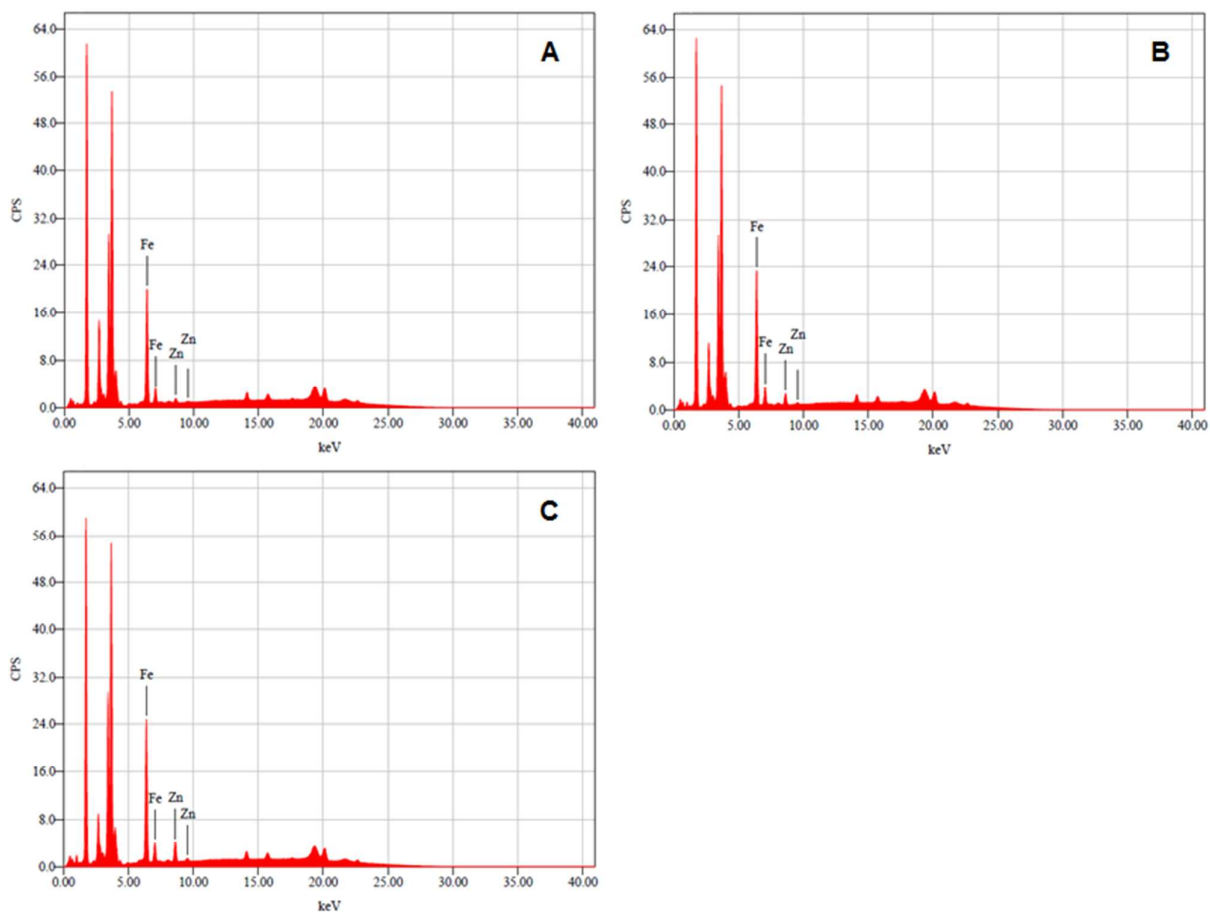

Figure S1: XRF results of $\text{ZnFe}_2\text{O}_4/\alpha\text{-Fe}_2\text{O}_3$ composites, ZF3 (A), ZF2 (B), ZF1 (C)
The surface composition of the prepared composites were analysed by XRF and the results are presented in Figure S1. The simple molar ratio between Zn and Fe in composite ZF3 was kept to be 1:8 which is consistent with the XRF results, Figure S1 (A). The simple mole ratio between ZnFe_2O_4 and $\alpha\text{-Fe}_2\text{O}_3$ in composite ZF3 would be 1:3, and can be justified as follows.
According to XRF results shown in figure S1 (B), the simple molar ratio between Zn and Fe in composite ZF2 was 1:6. The simple mole ratio between ZnFe_2O_4 and $\alpha\text{-Fe}_2\text{O}_3$ in ZF2 would be 1:2 and can be justified as under.
Figure S1 (C) shows the XRF results of composite ZF-1 according to which the simple molar ratio between Zn and Fe is 1:4. So the ratio between ZnO and $\alpha\text{-Fe}_2\text{O}_3$ will be 1:2.